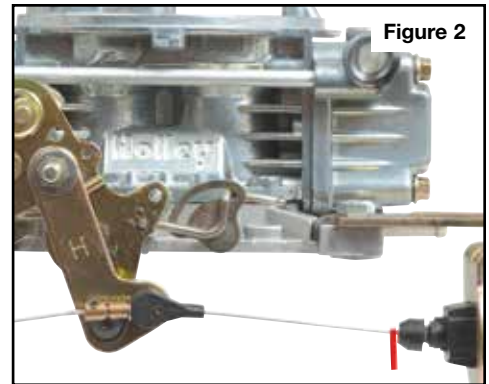

Figure 2
5. **Checks and Verification:** With the throttle in the idle position, mark the cable where it enters the cable housing. Rotate throttle arm and hold in the wide-open throttle position with the cable pulled out of the cable housing. Measure distance between mark on cable and cable housing. Distance should be 1.48" (1-31/64") for the GM 4L60 and Ford AOD (**Figures 2 & 3**, page 2).
9. **Checks and Verification:** With the throttle in the idle position, mark the cable where it enters the cable housing. Rotate throttle arm and hold in the wide-open throttle position with the cable pulled out of the cable housing. Measure distance between mark on cable and cable housing. Distance should be 1.40" (1-13/32") for the GM 200-4R, TH200 and TH200C (**Figures 2 and 3**).
6. **Checks and Verification:** With the throttle in the idle position, mark the cable where it enters the cable housing. Rotate throttle arm and hold in the wide-open throttle position with the cable pulled out of the cable housing. Measure distance between mark on cable and cable housing. Distance should be 1.40" (1-13/32") for the GM 200-4R, TH200 and TH200C (**Figures 2 and 3**).